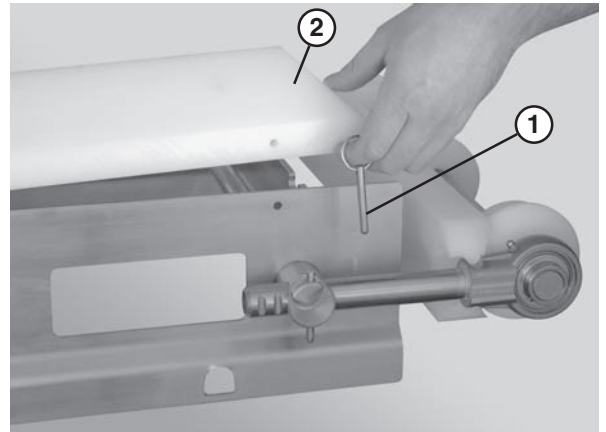

Figure 50
1. Remove the guides, if applicable, by removing the pull pins (**Figure 50, item 1**) that connect the guide (**Figure 50, item 2**) to the frame.